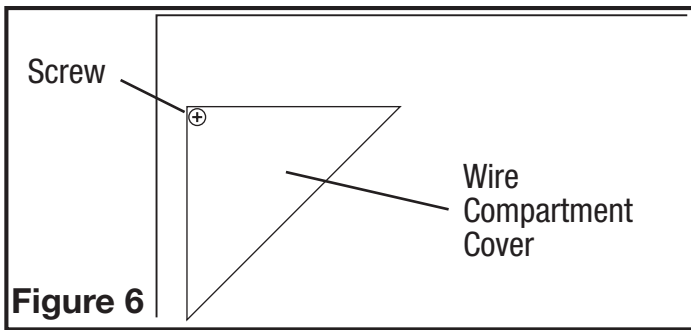

Figure 6
- External Wire Compartment: Remove the wire compartment cover screw and place cover in a secure place (**Figure 6**).